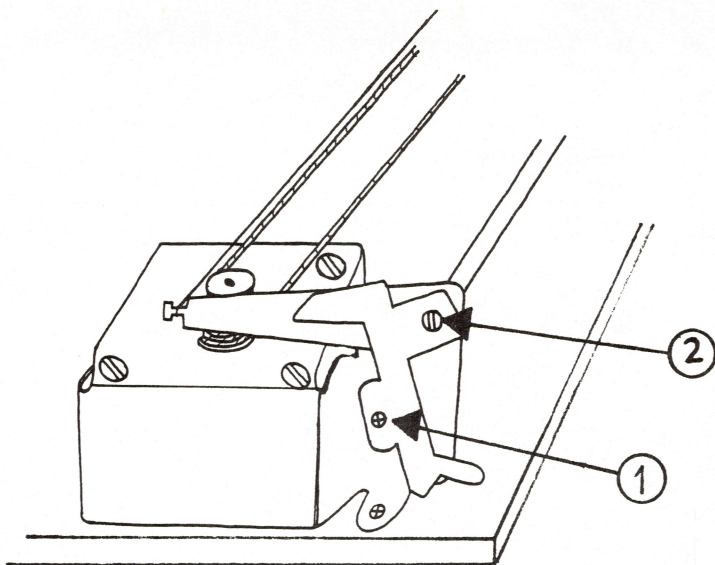

FIGURE 6
9. **(Omit this step for the 15 inch ImageWriter.)** Remove the screw that fastens the support bracket on the left side of the printer (see Figure 6, #1). Set the bracket aside.
10. Loosen the screw on the ribbon wire arm on the left side of the printer (see Figure 6, #2). Just give it a few turns to ease the tension on the wire.